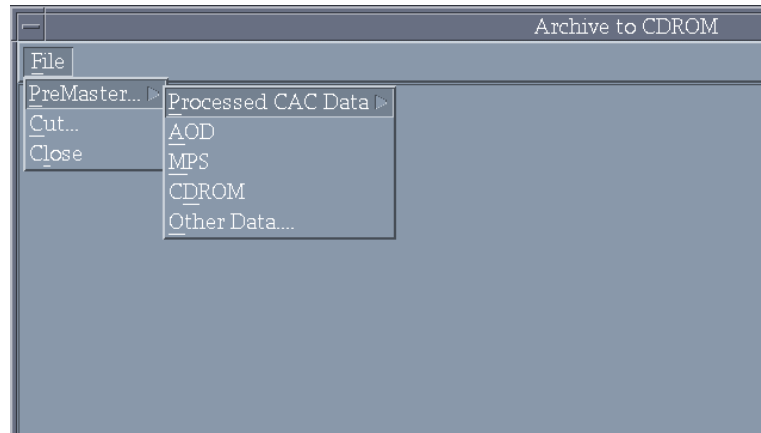

Fig. 38 – Archive to CDROM window
3.3.6.2.1 Archive Data To CDROM — This option will “Premaster” a set of data into a CD image and writes the data to a CD. The CD images conform to the International Standard Organization (ISO) 9660 standard for optical disk formats. When a user selects this option, MMC opens the **Archive To CDROM Window** (Fig. 38). Click on *PreMaster...* and select the data type to be archived: Processed CAC Data, AOD, MPS, CDROM, or Other Data. MMC will build an ISO 9660 Image from that data. If the user has built an ISO Image before, MMC will prompt the user to delete that file before building a new one. After premastering the data into an ISO Image, select *Cut...* to actually copy the data to a CD. When finished, select *Close* to return to the **MMC Window**. There are six data types that MMC can archive to CD: